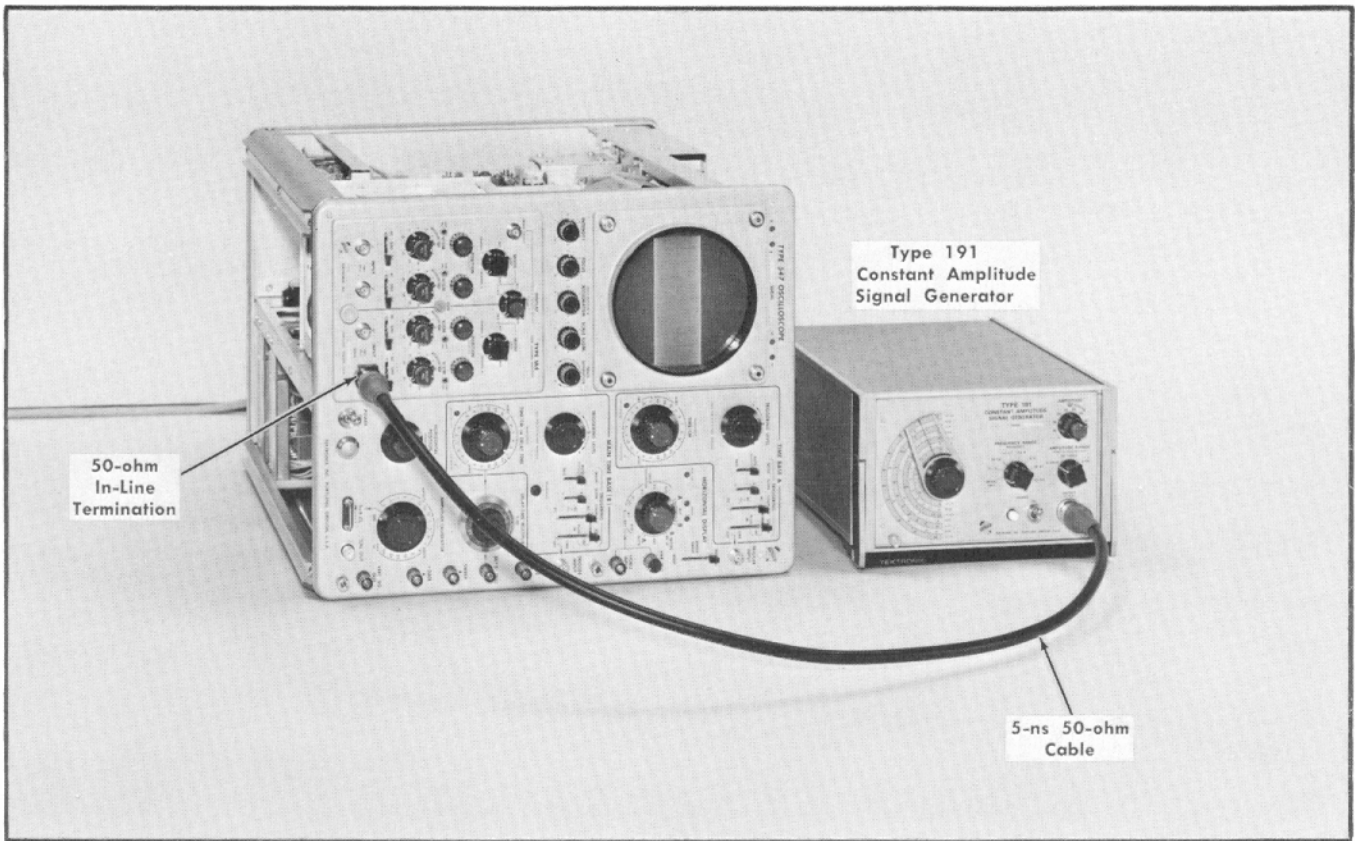

Fig. 7-25. Test equipment setup for step 20.
a. Test equipment setup, with connections made at completion of step 20c, is shown in Fig. 7-25.